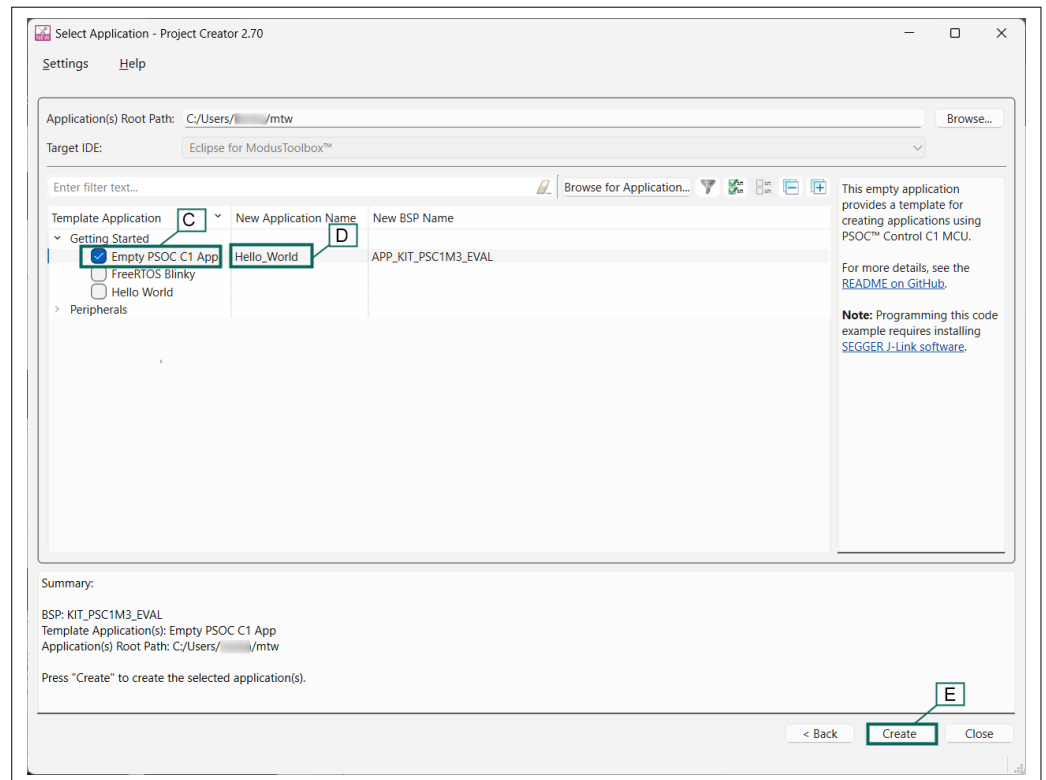

Figure 8 Choose starter application
- In the **Select Application** dialog, select **Empty App** starter application, as shown in the following Figure 8
- Click **Create** to create the application, as shown in the following Figure 8, wait for the Project Creator to automatically close once the project is successfully created